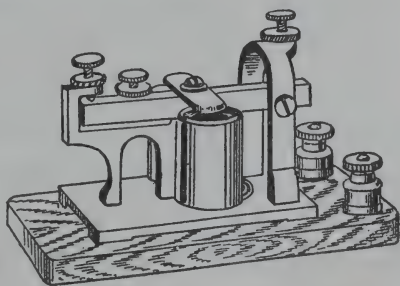

Fig. 29
10. *The Telegraph Sounder* (Fig. 29).—This was